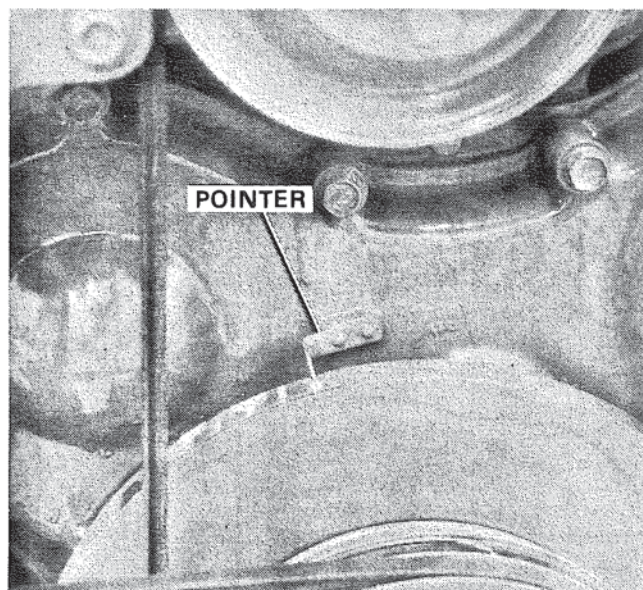

Figure 10. Establishing T.D.C.
1. **Checking and adjusting valve clearance.** Set No. 1 piston at top dead center (TDC) on compression stroke. Align TDC mark on crankshaft dampener with timing pointer on timing gear case. Figure 10.